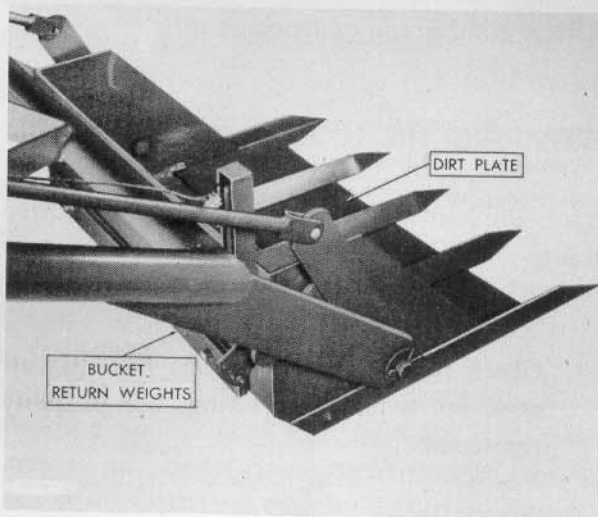
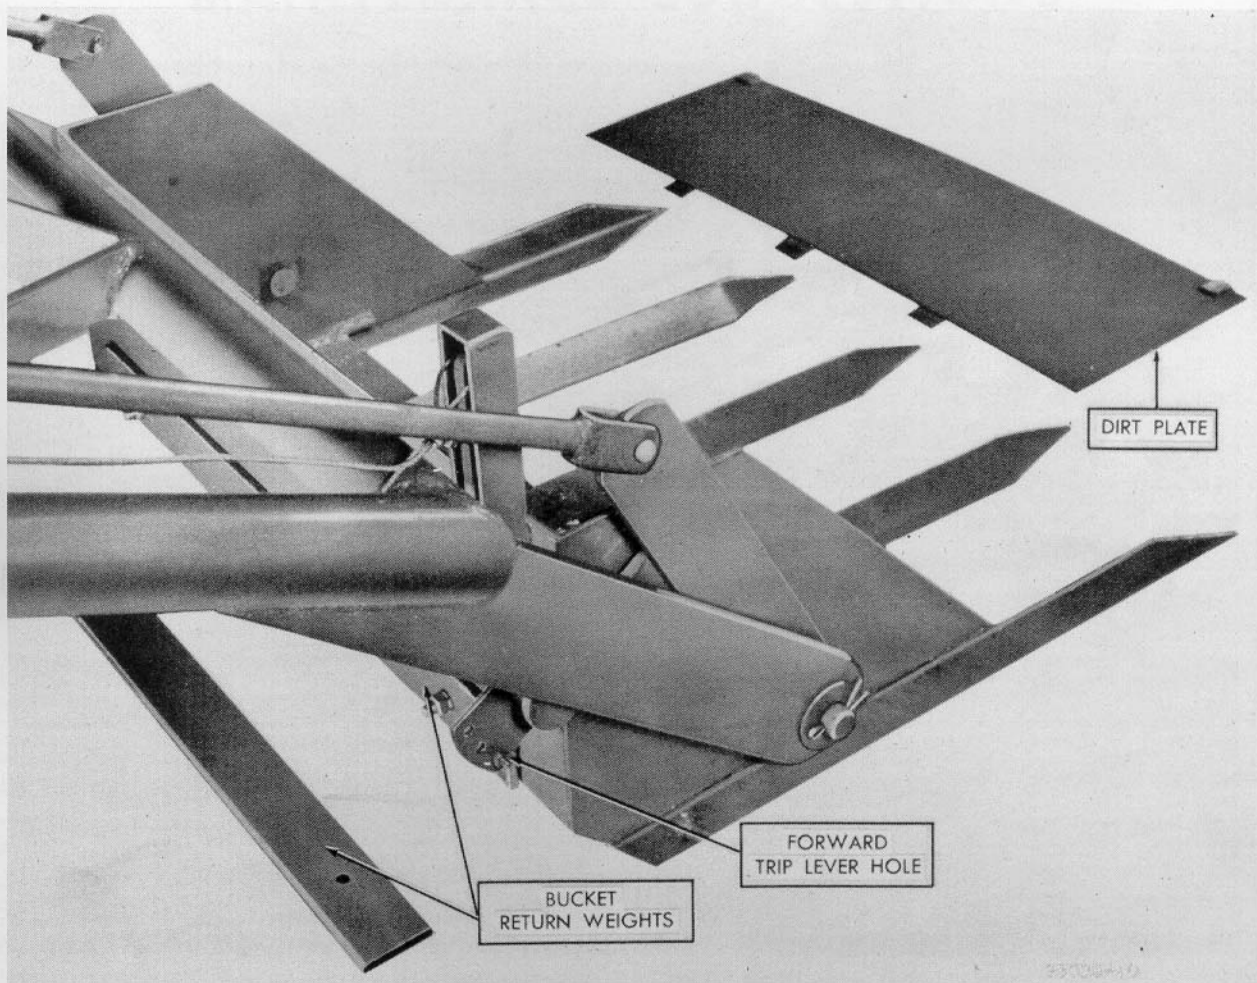

Figure 23
Figure 24
- Dirt plate and bucket weights:* If the bucket is to be used for sand, dirt or gravel, leave the dirt plate in and use two bucket return weights as in Figure 23. If the bucket is to be used as a fork, remove the dirt plate and one bucket return weight as in Figure 24.
- Trip trigger spring:* The trip trigger spring is anchored in the forward hole at the base of the trigger as shown in Figure 24. After use, it may be necessary to adjust the spring tension. Do this by anchoring the spring in the second or third hole.